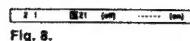

Fig. 8.
- 4 Select if necessary, a video input source (EXT) with Δ + or ∇ -. Then press OK. The CH position will be highlighted. (See Fig. 8.)